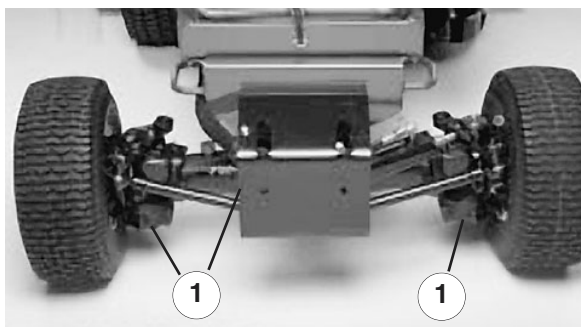

Figure 52
2. Clean the area around the drain plugs (Fig. 52).